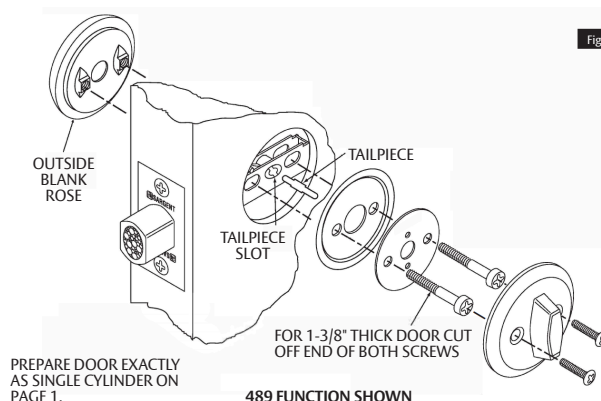

Figure 10
- Fasten with two turn piece screws. (See Figure 10).